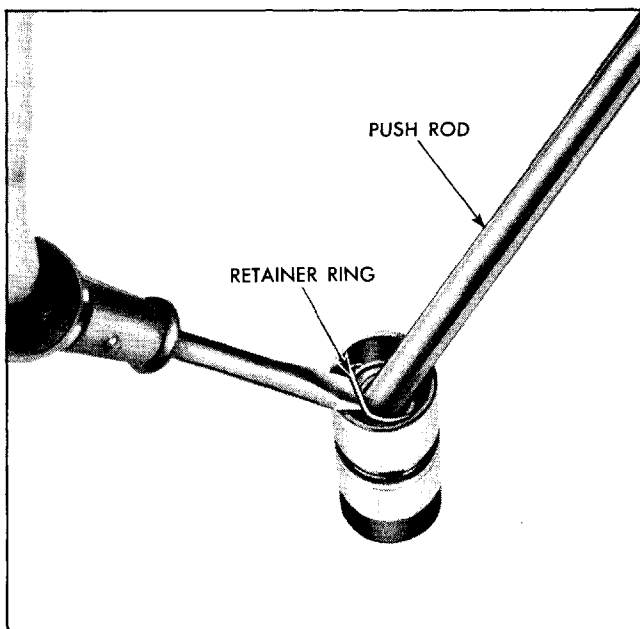

Fig. 6-47 Removing Push Rod Seat Retainer Ring
1. Remove push rod seat retainer ring by holding seat down with push rod while dislodging spring from lifter body with a pointed tool (Fig. 6-47). **NOTE:** It may be necessary to unseat lifter ball, using plunger unloader J-5097, before plunger can be pushed down.